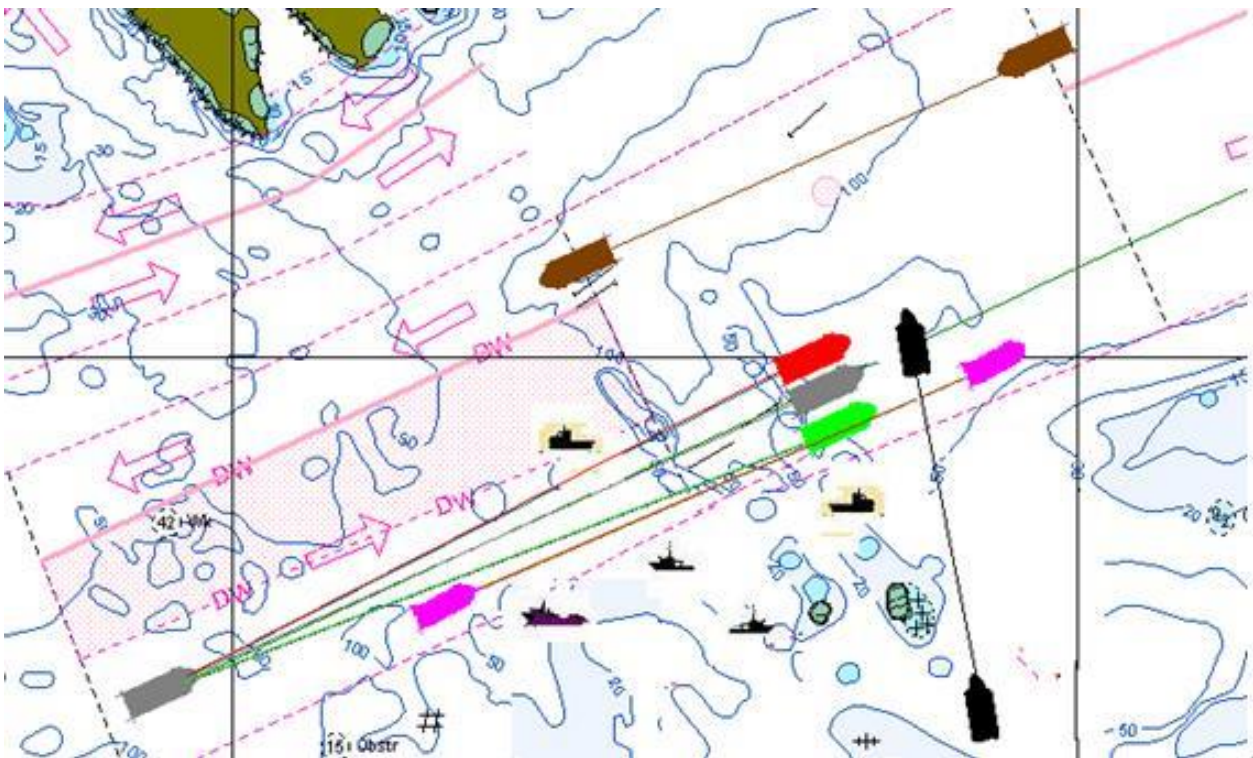
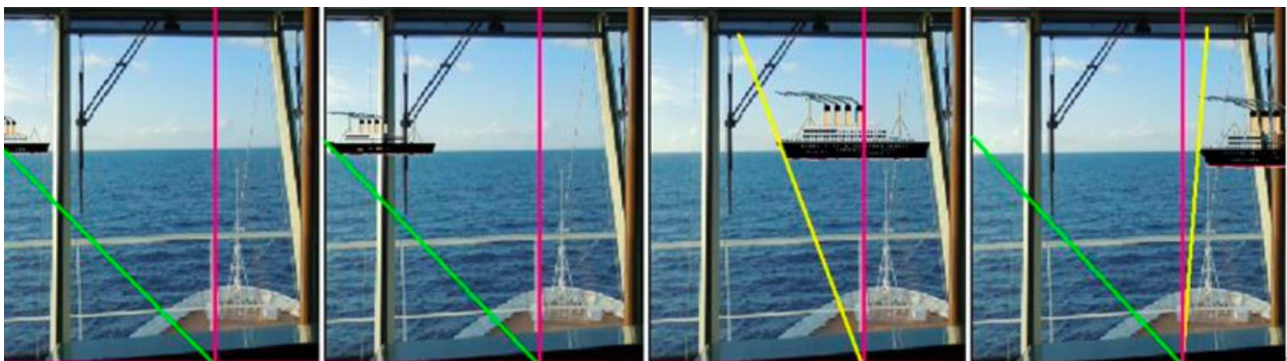

Figure 6-09: What ownship can do by alter course 3 degrees in 6 minutes ahead
Figure 6-10: Target stern passed all clear from ownship bow
- ⇒ Well, it is possible. Originally, 3 degrees course change from 064° (T) to 067° (T) is enough to create 174 meters abeam distance. Why ownship had changed course but still in situation1? Main reason for this kind of trouble is captain's estimation of collision position (not situation) is not correct or Captain had no idea of what will happen after 6 minutes.
- ⇒ For example, in figure 6-09 ownship's original heading is  $061^{\circ}(T)$  as the red vessel. Captain apply 3 degrees starboardside as grey vessel steered in  $064^{\circ}(T)$  as grey vessel. The result is like what we see grey vessel head into Black vessel's midship section in figure 6-09.
In figure 6-09 we discussed about 3 degrees difference in heading will change collision spot of target vessel. For a target vessel to pass ownship's bow **we need to make sure target's stern bearing are cleared** like figure 6-10. Target vessel horizon angle increased as approaching but her stern still has time to clear ownship's bow. Use target vessel stern bearing to access collision risk will take blossom effect into our action plan. If we have monitored bearing change of target's stern we don't need to worry about her blossom effect. This is very important as **instinct reaction from visual skills Captain had is his last**
All bearings mentioned in COLREG are compass bearings which measured from Earth meridian (due North), not ownship's heading. When ownship alter course to avoid collision target vessel's compass bearing did not change appreciable in the beginning. The effect of alter course to avoid collision is only effective after ownship had gained some sea room from Earth when we can see target vessel's compass bearing changed at third stage of turning. Where is North or Meridian we don't know we need an equipment (gyro, ECDIS or RADAR/ARPA) to remind us where is prime meridian we can use to take compass bearing to evaluate our collision avoidance actions. It is not our nature and indirect to our instinct. In Junior OOW level, there is no harm with this precaution when substantial action in ample time and enough sea room is the norm for avoidance actions in open sea mostly. In Senior OOW level, using compass bearing to avoid collision already has its limitation if we considering horizontal angle augment in close range. For example, in figure 6-10, we use target vessel's stern to evaluate bearing change for collision avoidance. If we take compass bearing of this target vessel from RADAR or ARPA did you think we will get same result of her compass bearing change to compare with her relative bearing change from a dumb compass card? It will have some difference because the reference point we take from same vessel to decode compass bearing and relative bearing may not the same. Actually, to measure compass bearing of a very close target is very inaccurate because the horizontal angle can cover up 10 degrees in 1.0 nm distance. *It's about 10 degrees horizontal angle for a target length 300 meters.  $1852 \text{ m} \times 1 \text{ nm} \times \sin(\theta) = 300 \text{ meters}$  (chapter 2-08).  $\theta = 9.32 \text{ degrees}$ .* **We need relative bearing most when we practice visual skills in Master level.**